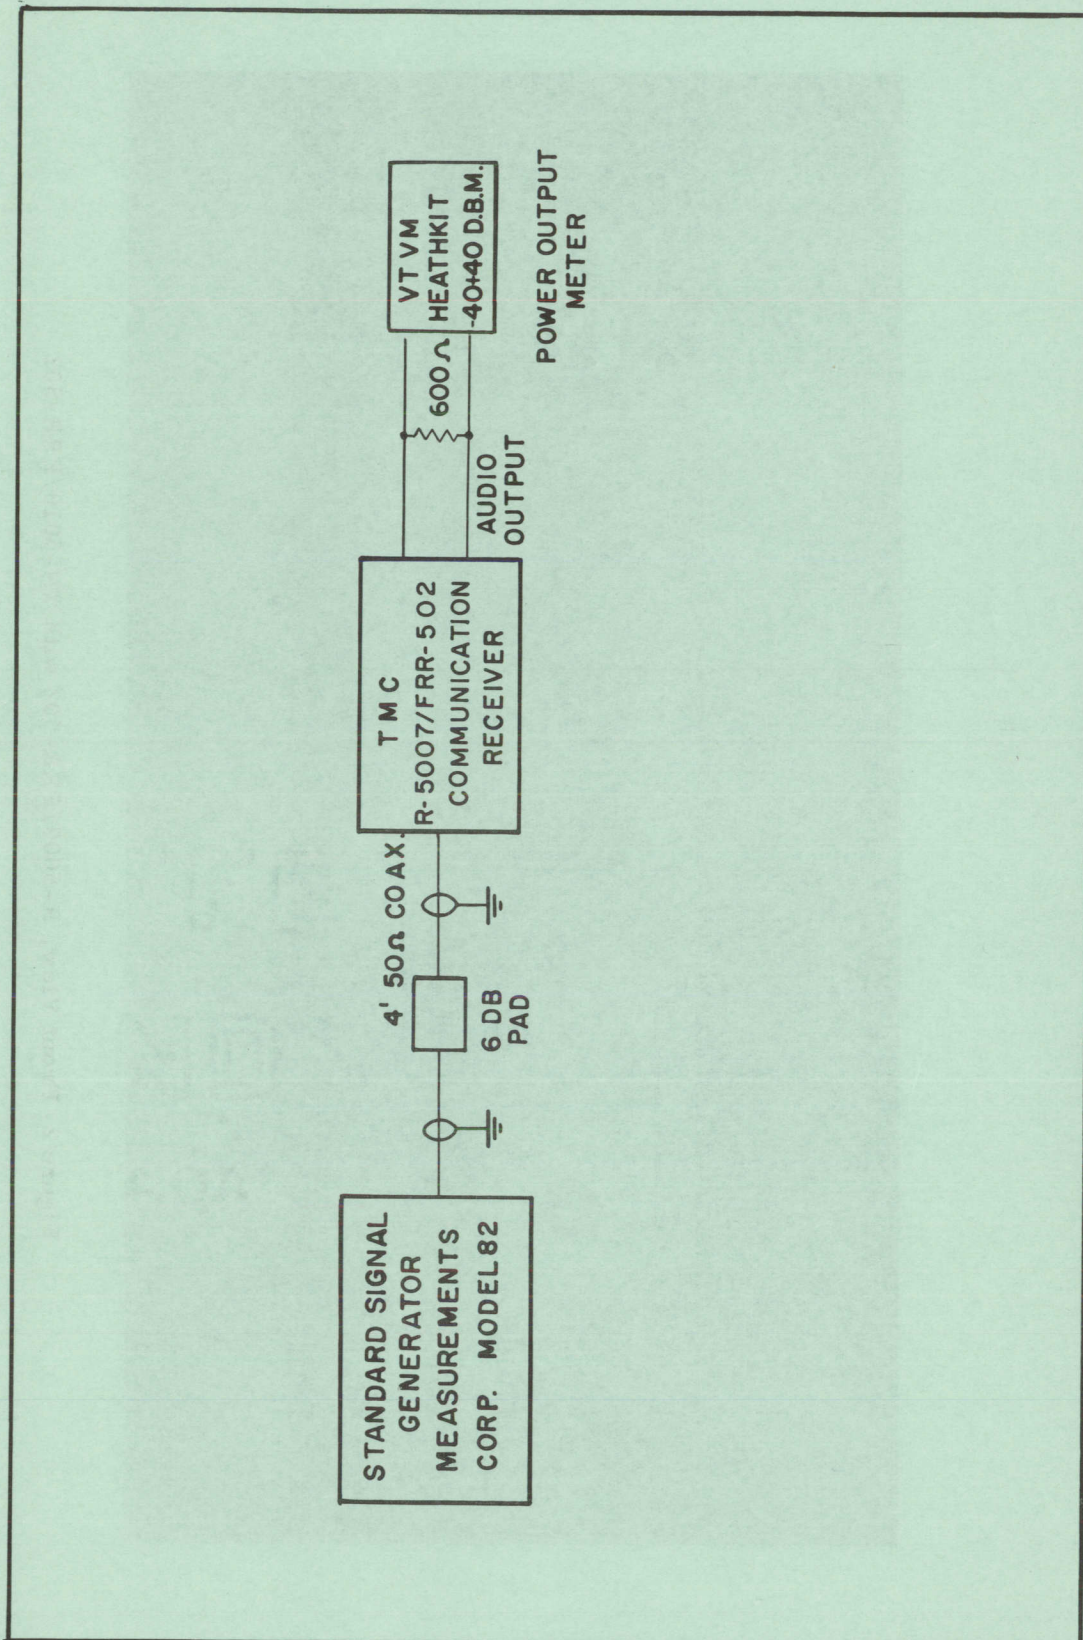

Figure 1 Test Equipment Connections
- Figure 1 Test Equipment Connections